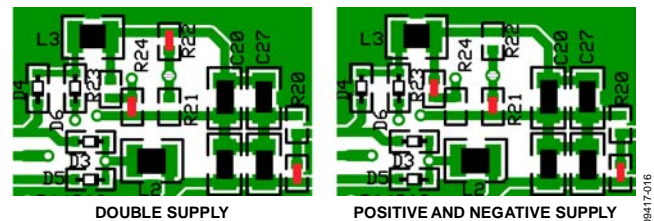

Figure 16. Double Supply Configuration with 0  $\Omega$  Resistors (Red)
–15 V supply. Short-circuiting R21 instead of R22 connects the transformer center tap to the ground plane instead of the node where L3, C20, and C27 are connected. Figure 16 shows which resistors should be short-circuited and open-circuited for the double supply or positive and negative supply configurations. Note that the negative supply is unregulated. The positive and negative supply can be set for  $\pm 12$  V instead of  $\pm 15$  V by short-circuiting R25.